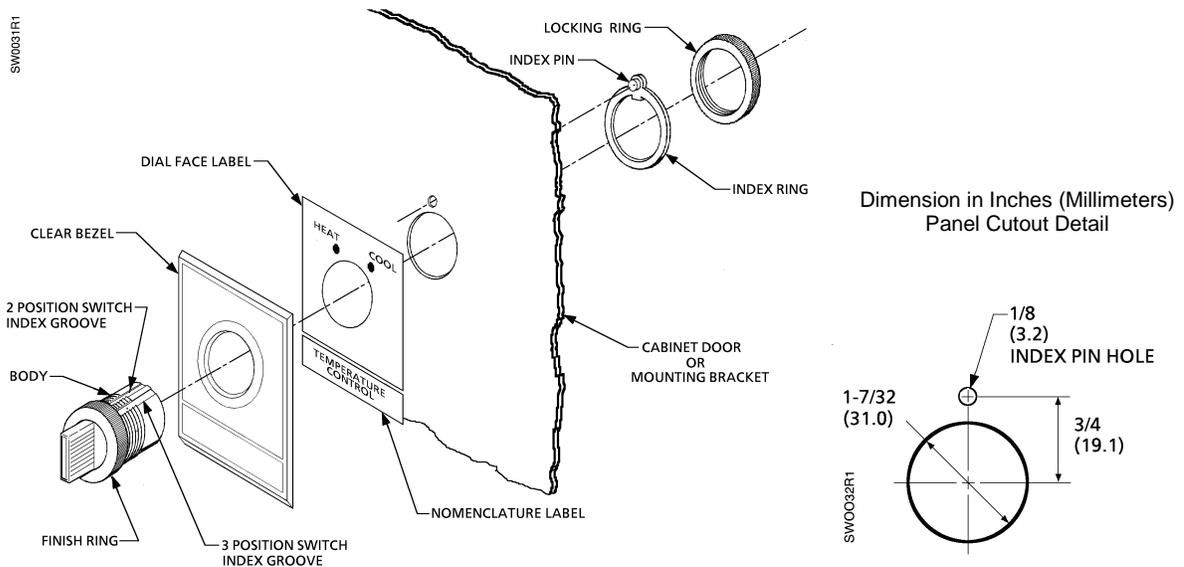

Figure 2. Panel Mounting of the Selector Switch.
4. Place the index ring over the switch body with the index pin facing the back of the panel. Align the appropriate index groove on the switch body with the index tab on the index ring. See Figure 2.
7. Place the nomenclature label face down in the clear plastic bezel. Insert the switch body, bezel, and labels through the opening in the bracket from the front. See Figure 2.
8. Place the index ring over the switch body with the index pin facing the back of the mounting bracket. Align the appropriate index groove on the switch body with the index tab on the index ring. See Figure 2.